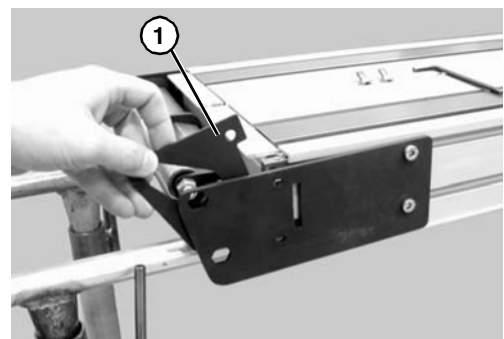

Figure 48
3. Remove the inner spacer (**Figure 48, item 1**).